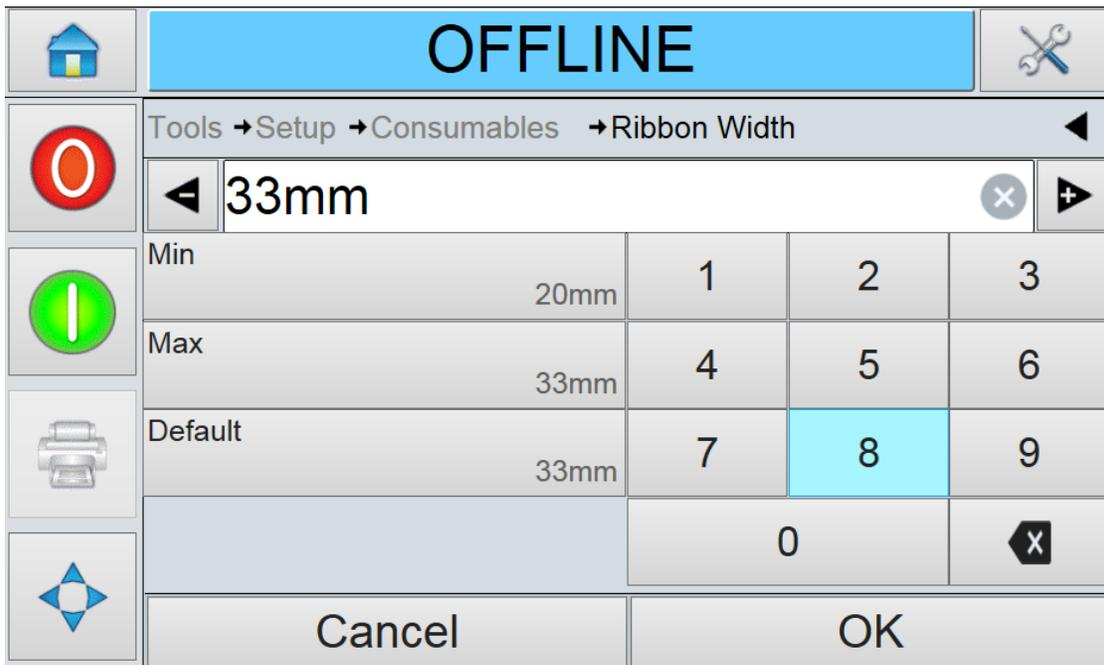

Figure 4-18: Printer Ribbon Width
2. Enter a new value using the keypad as shown in the Figure 4-18.